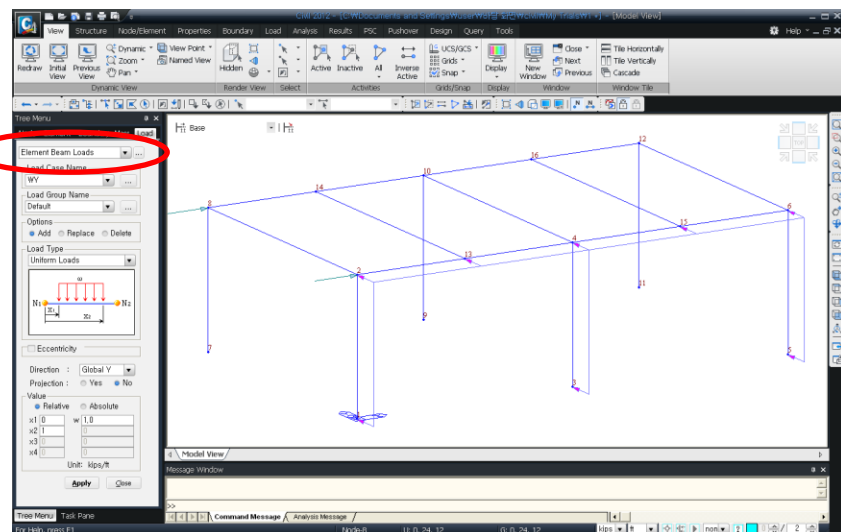

Figure 1.18 Entry of Y-Direction Wind Load
5. Select **Element Beam Loads** from the functions selection field (Fig.1.18–①).